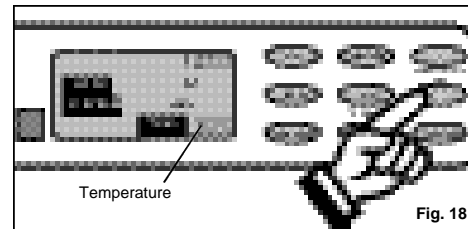

Fig. 18
- 3) Press the appropriate  $\Delta$  or  $\nabla$  key to set a dehumidifying temperature between 10°C (50°F) to 30°C (88°F). *Fig. 18*. The **green** indicator light will come on indicating the dehumidifying mode is operational (there may be a slight delay of 10-30 seconds before the cycle begins, this is normal).